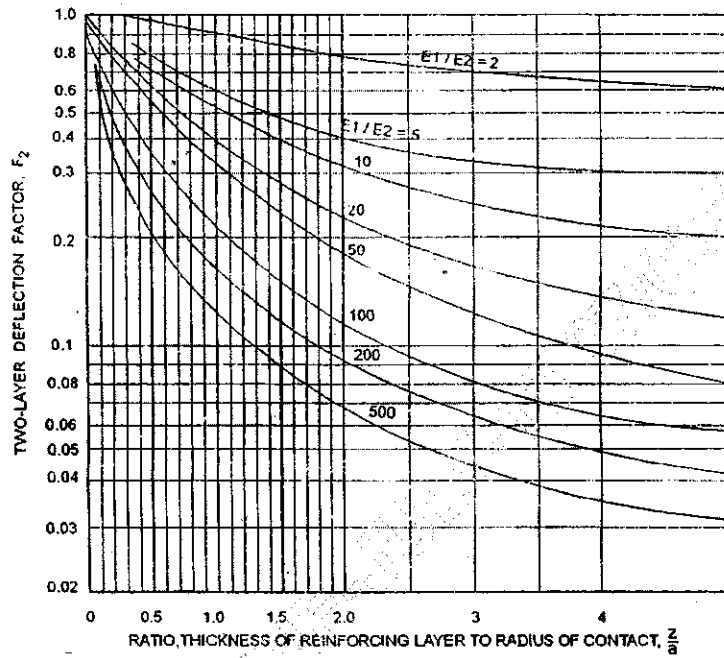

Fig. Q2 (c)
c. The plate bearing tests were conducted with 30 cm plate diameter on soil subgrade and over 45 cm base course. The pressure yielded at 0.5 cm deflection are 1.25 kg/cm² and 8 kg/cm² respectively. Design the pavement section for 5100 kg wheel load with tyre pressure of 7 kg/cm² for an allowable deflection of 0.5 cm using Burmister's approach. (Refer chart given for Burmister's two layer deflection factors in Fig. Q2 (c)) (08 Marks)